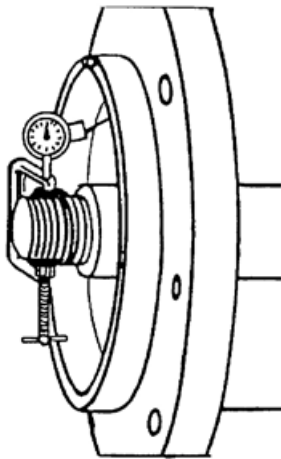

Figure 45
5. Check for shaft concentricity to the housing/seal chamber, which should be within 0.005" (0.13mm) maximum (Figures 45 & 46).